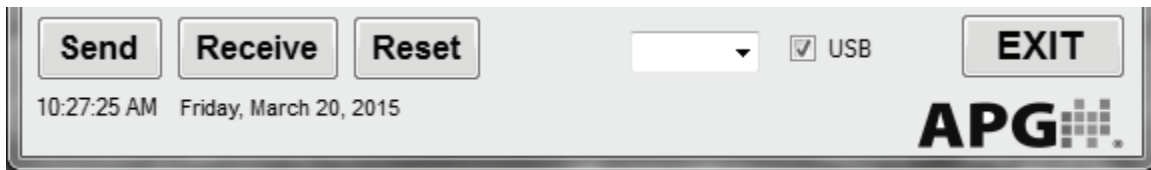

Figure 3.10
Below the Sensor Readings and Communication Status area are four Control Buttons. On the left side are three sensor communication buttons: Send, Receive, and Reset. In the middle are a dropdown box and check box for selecting the communication channels. On the right side is the Exit button. (See Figure 3.10)
**NOTE:** The *Reset* button in the I2000SWR software will reset the IRU to factory default settings (See Figure 3.10).